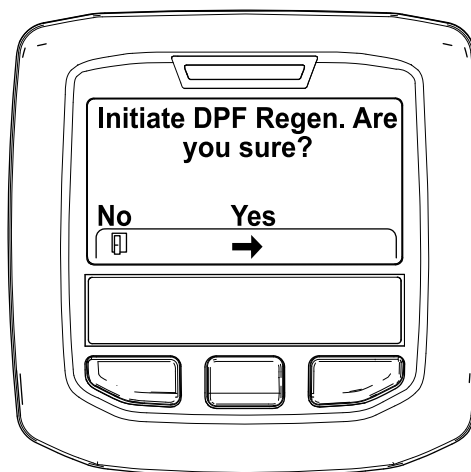

Figure 32
4. When the "Initiate DPF Regen. Are you sure?" message displays, press the center button (Figure 32).